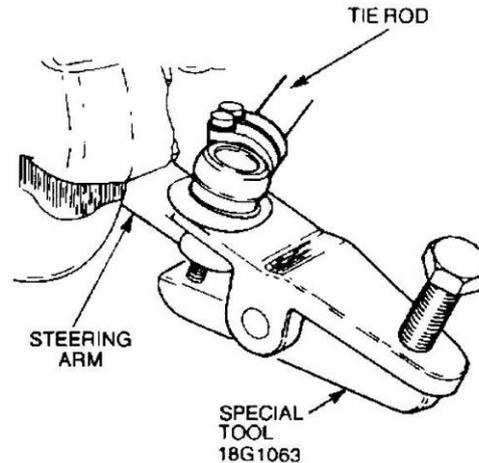

Figure 115 Removal of the Steering Linkage
- h. Remove the split pin, castellated nut and washer securing the tie rod ball-joints. Using special tool 18G1063, disconnect the ball-joints from the steering arms. Discard the split pin (Figure 115).